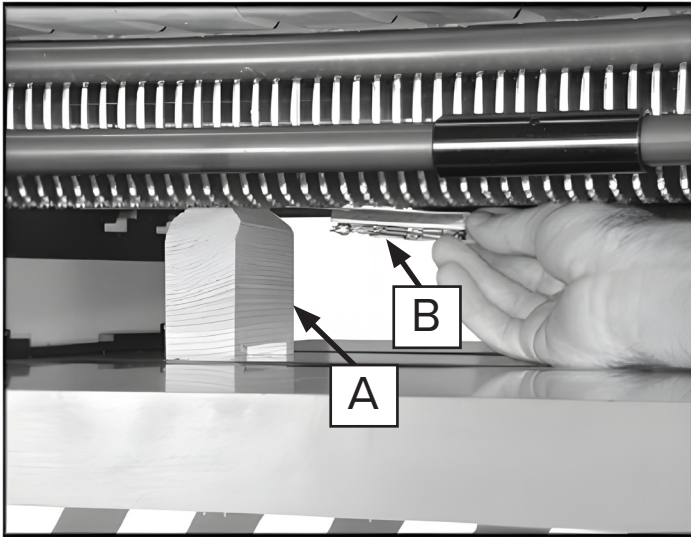

Figure 12: Infeed Roller Adjustment.
2. Position a hardwood gauge (A Fig 12) beneath a knife in the cutterhead. Place a 0.02" feeler gauge (B, Fig 12) on top of the wood gauge, then raise the table until the feeler gauge contacts the knife at its lowest position.